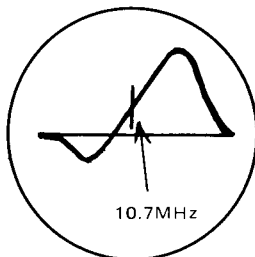

Fig. 20
- At the first tune off Discriminator with turning the secondary coil core of T102 to counter clockwise. Then the wave shape on scope becomes like as illustrated in Fig. 20.